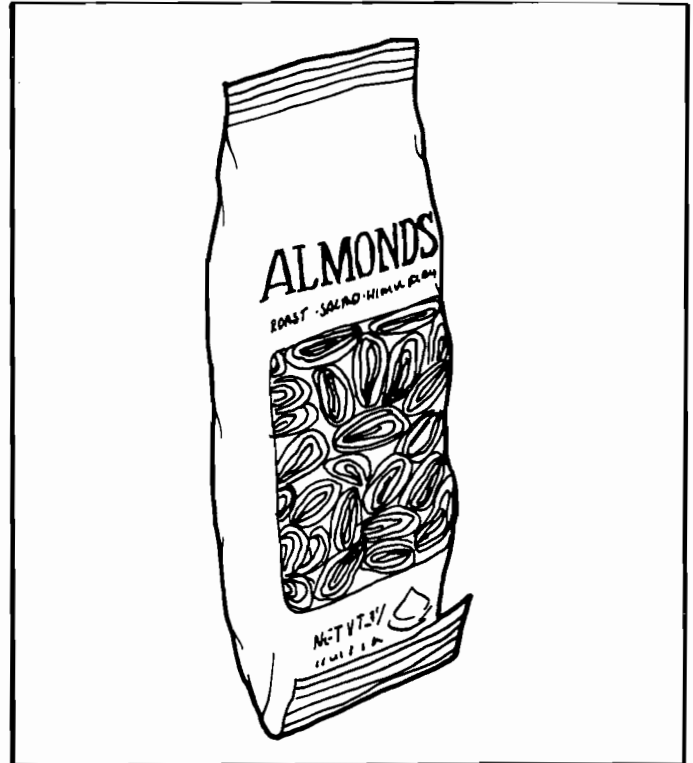

Figure 8. FOLD BAGGED ITEMS BOTTOM EDGE FORWARD AND UP.
10. **BAGGED ITEMS** in the 10-selection shelves if not loaded properly could be a problem. The sealed edge of the bag may get under the spiral wire causing the product to hang up after it has been vended. It is recommended that the lower edge on these types of product be folded forward and up (see Figure 8) next to the product before inserting into the spiral space.